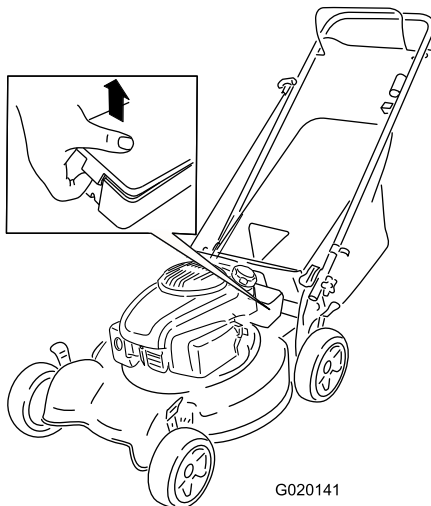

Figure 24
1. Unclip both ends of the battery cover and remove it (Figure 24).